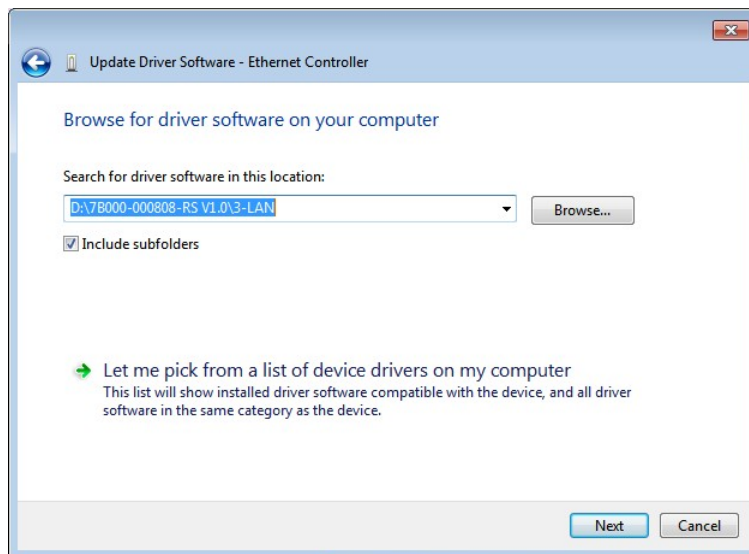

Figure 6-16: Locate Driver Files
Step 9: Click Browse to select “X:\3-LAN” directory in the **Locate File** window, where “X:\” is the system CD drive. (Figure 6-16).